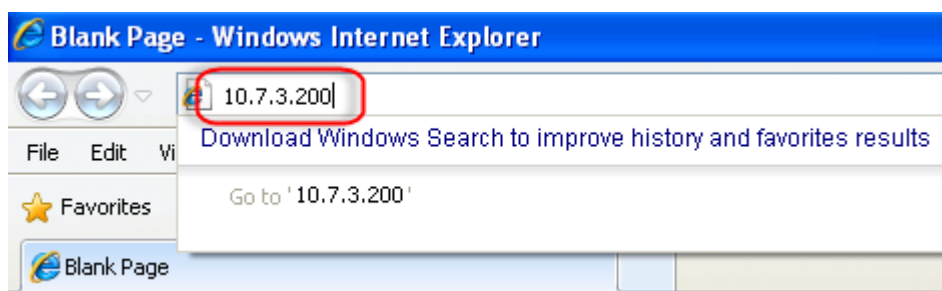

Figure 3-2 Web Browser OMT Connection for Wired Access
4. Open a browser window and enter the default gateway in the navigation bar to access the WebOMT page. Figure 3-2 shows an example using 10.7.3.200 as the default gateway.